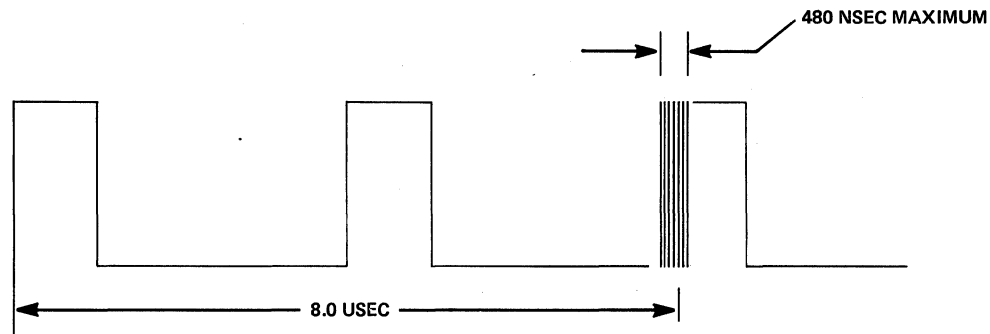

Figure 2-3
2.1.2.4 Observe the following pattern (see Figure 2-3).
- 2.1.2.5 Measure the amount of jitter present on the leading edge of the third pulse (see Figure 2-3). Jitter on the third pulse of greater than ± 240 nsec (480 nsec edge-to-edge) indicates excessive ISV.